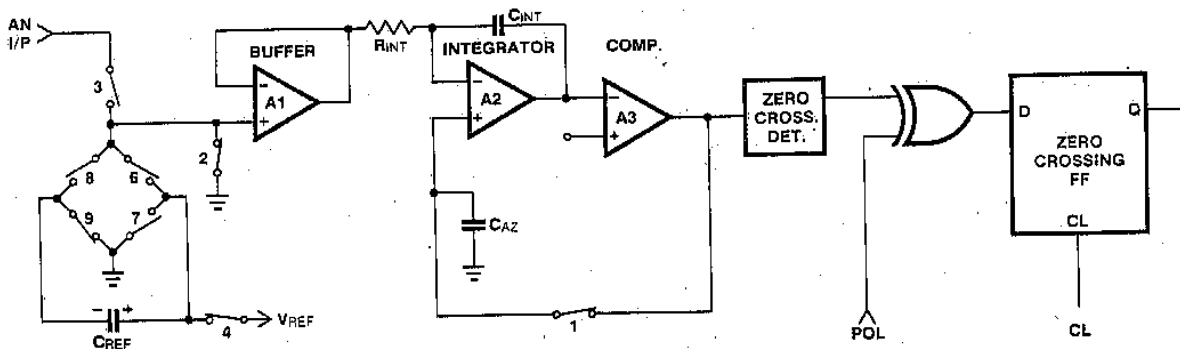

Figure 2A: Phase I Auto-Zero
**1. Auto-Zero Phase I Fig. 2A**